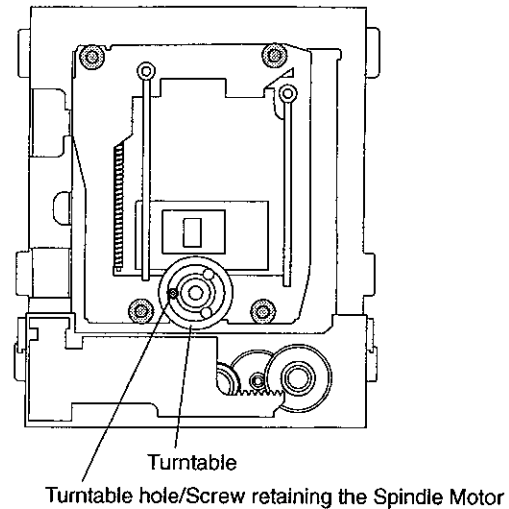

Fig. 2.9
- (3) Insert a Philips screwdriver into the turntable hole and remove the two screws that retain the Spindle Motor (Motor CDS8A50T30-A/TT). Refer to Fig. 2.9.